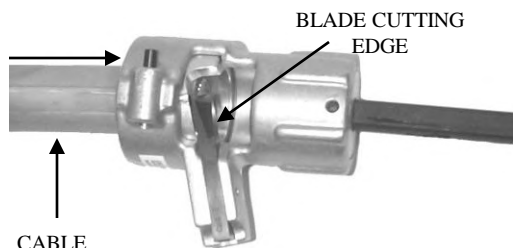

Fig. 4
Step 4. (Fig. 4) To strip the insulation, insert the cable into the WS6-M until it comes in contact with cutting edge of the blade. Always check the blade position with respect to the conductor, before stripping the insulation.